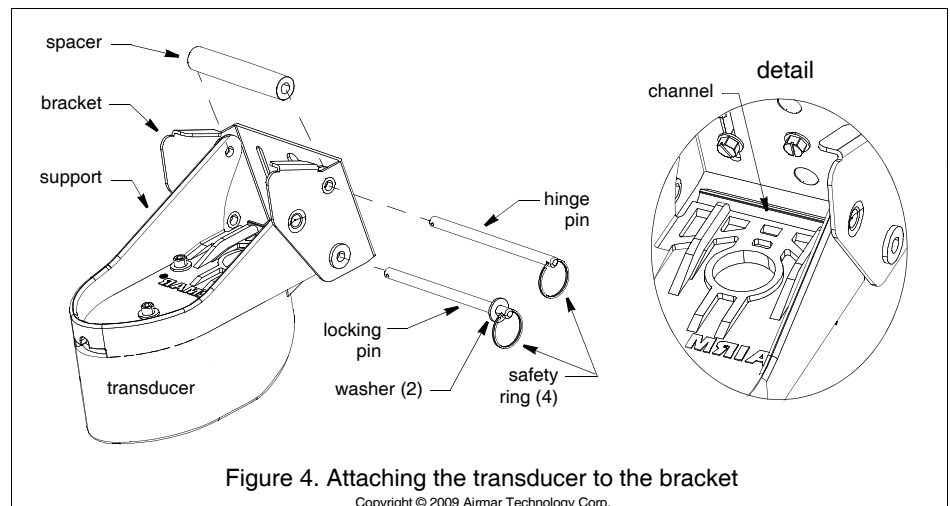

Figure 4. Attaching the transducer to the bracket
3. Attach a safety ring to one end of each pin (Figure 4).
2. Remove the transducer assembly from the bracket by removing the locking pin and the hinge pin (Figure 4). Hold the bracket with any shim(s) in place against the transom at the marked location. Draw an "X" at 12mm (1/2") from the top and the bottom of each slot (Figure 6).
1. Apply marine sealant to the threads of four of the hex-washer-head screws to prevent water seepage into the transom. Being sure any shim(s) is in place, screw the bracket to the hull using a socket wrench (Figure 4). *Do not tighten the screws at this time.*
5. Using the vertical adjustment space in the bracket slots, slide the assembly up or down until the bottom inside corner of the transducer projections 0–3mm (0–1/8") below the bottom of the hull (Figure 1). When you are satisfied with the position of the transducer, tighten the four bracket screws. For clear access to the screws, remove the transducer assembly from the bracket (Figure 4). *When reattaching, be sure to include the spacer.*
3. Fasten the stabilizing screw into place with a socket wrench. For clear access to the screw, remove the transducer assembly from the bracket (Figure 4). *When reattaching the transducer, be sure to include the spacer.*